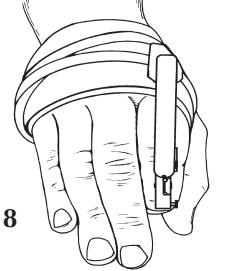

Fig. 8
4. Reattach the Hook and Loop Tab to forward edge of the Cuff directly over the large knuckle of the involved finger (Fig. 8).